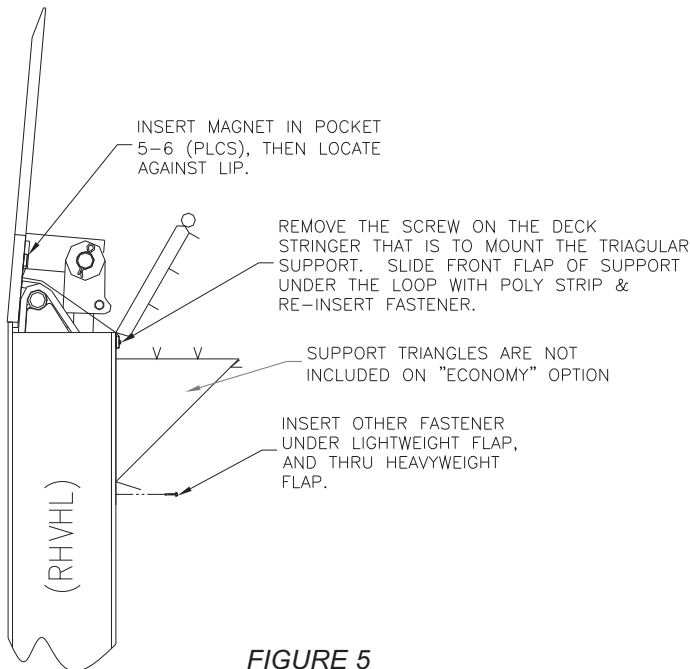

FIGURE 5
- 10) Next, mount the foam support triangles. (See Figure 5.) These will get mounted on the outer most deck stringers on the leveler. On 6'-0" and 6'-6" wide units, one of the outer most stringers has the lip stop bolt mounted to it. On 7' wide units, both outside stringers are open. (Note: Do not mount the support triangles to the center if possible. The outside edges of the curtain are more critical in keeping a tight seal. The rods located in the curtain will provide adequate support at center to keep a good seal against the pit floor.)
- 12) Lift up the loop and slide the front flap of the support underneath the mounting loop. The face of the pad with the Velcro tabs should be approximately 1-1/4" to 1-1/2" away from the front edge of the deck stringer. Do not get pad too far forward. Being slightly further back is OK, as long as the Velcro attachment tabs connect between the support triangles and main curtain. Reinstall the screws attaching the poly strip and the tab on support triangles. (See Figure 5.) (Note: On the stringers with the lip stop bolt, notch the mounting tab so the support can be centered on the stringer. Take care in not taking too much fabric away.)